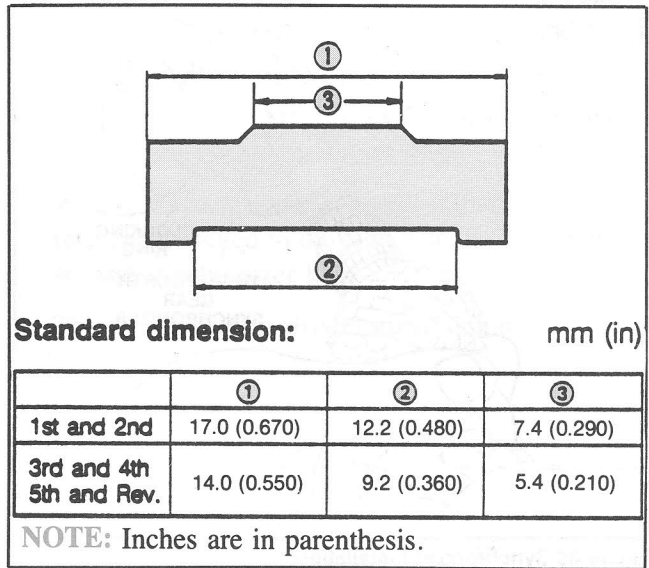

Figure 87 Synchronizer Insert Chart
**NOTE:** There are two synchronizer insert sizes. The following chart and illustration details which size insert belongs with which synchronizer. (Figure 87).